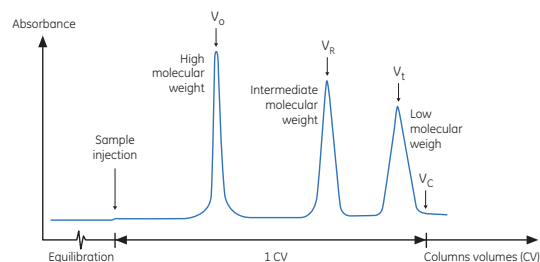

Fig 1. Schematic process of SEC.
Size exclusion chromatography (SEC), also called Gel filtration (GF), separates molecules on the basis of differences in size as they pass through a SEC medium packed in a column. SEC media consists of spherical particles with pores of different sizes where molecules small enough to enter the pores are retarded as compared to larger molecules (Fig 1). Samples are eluted isocratically (single buffer, no gradient). Buffer conditions can be varied to suit the sample type or the requirements for the next purification, analysis, or storage step.